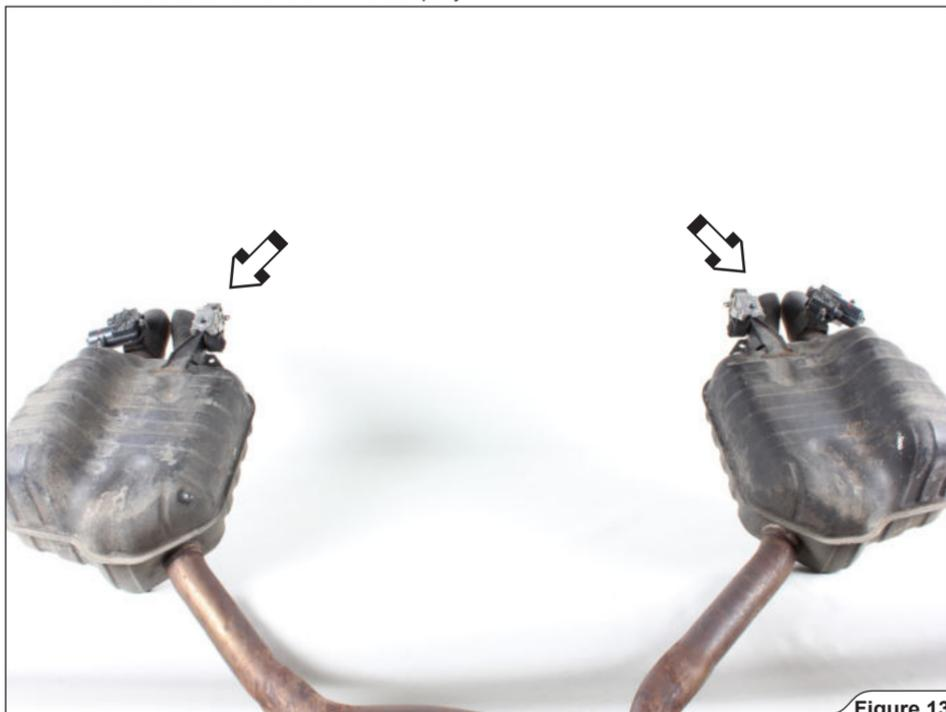

Figure 13
9. Carefully remove the rubber brackets and exhaust valves servos off the mufflers (**Figure 13, 14**).